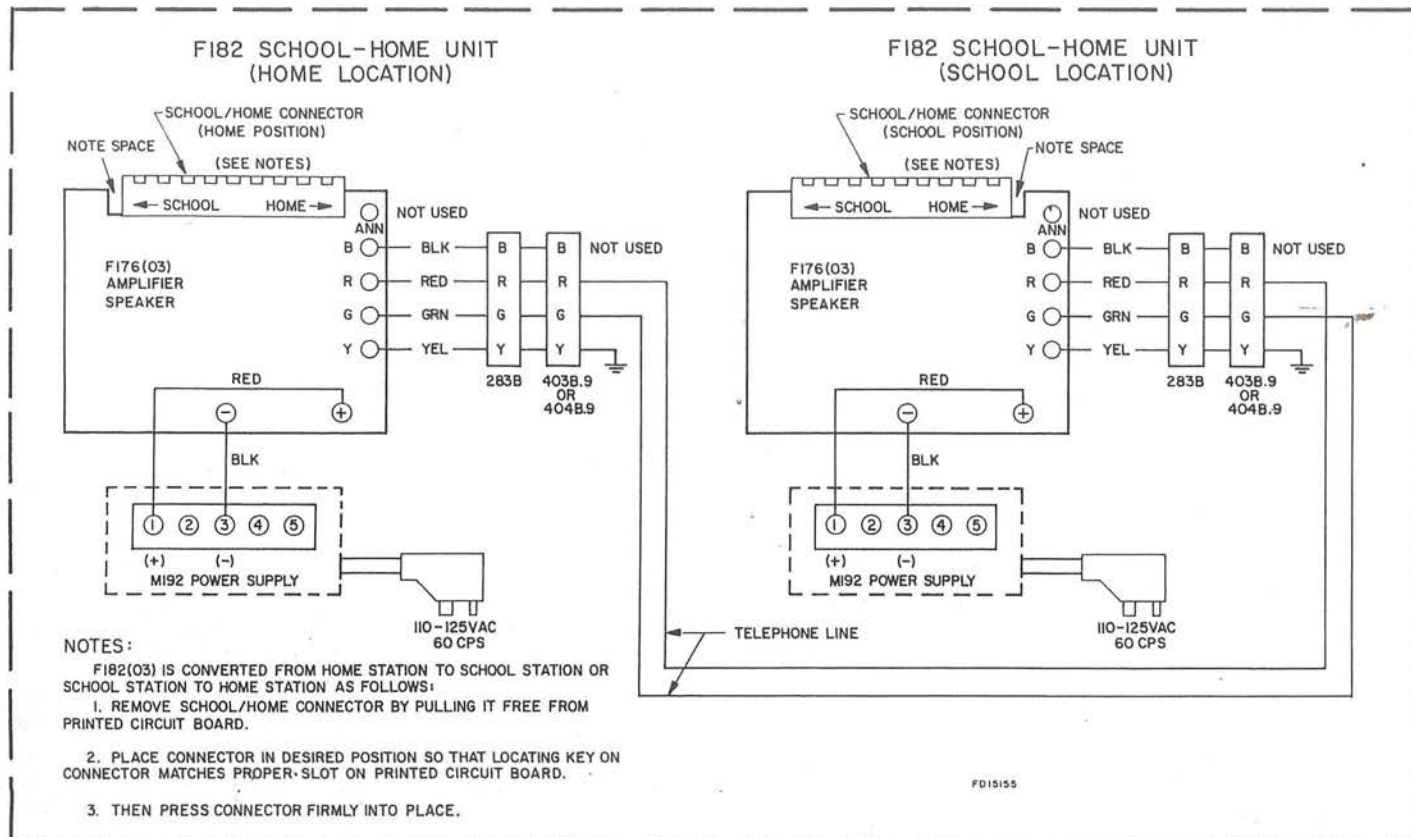

Figure 3. Interconnection and Conversion Diagram for School and Home Units
Model F182 consists of Amplifier-Speaker F176 and Power Supply M192, which are mechanically joined with two screws. Model F182, equipped with a connecting cable, is shipped wired for home operation. The amplifier and power supply may be separated as described in Section 5. The F182 may be used either at home or at school. The method of connecting the unit for home or school operation is illustrated in Figure 3.
- b) Remove and discard the two jumpers connecting amplifier and power supply. (See Figure 3.)